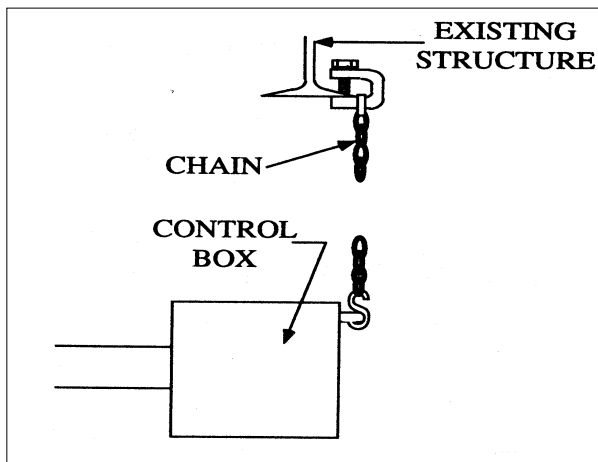

Figure 1-6
1. Use of #1 double-loop chain is recommended for heater hanging (Accessory No. THCS) (see Figure 1-6). Close all “S” hooks to ensure maximum load carrying capacity. Accessory No. “BK” allows for preset mounting angle of 15°, 30°, or 45°.